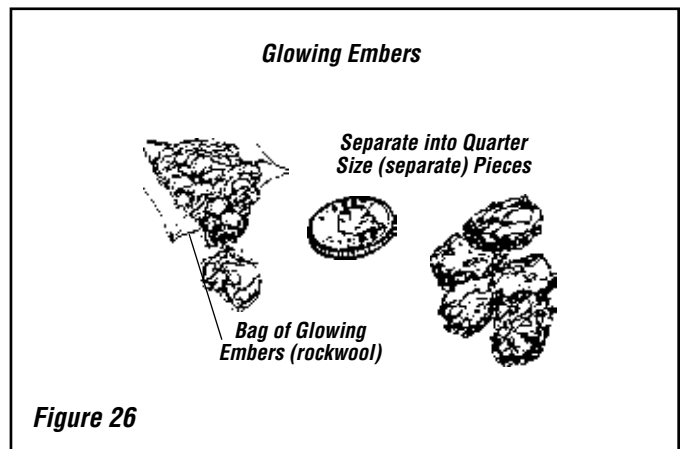

Figure 26
Step 1. Separate the Glowing Embers (Rockwool) into pieces about the size of a quarter (*see Figure 26*). Keep the pieces fluffed up, not matted.